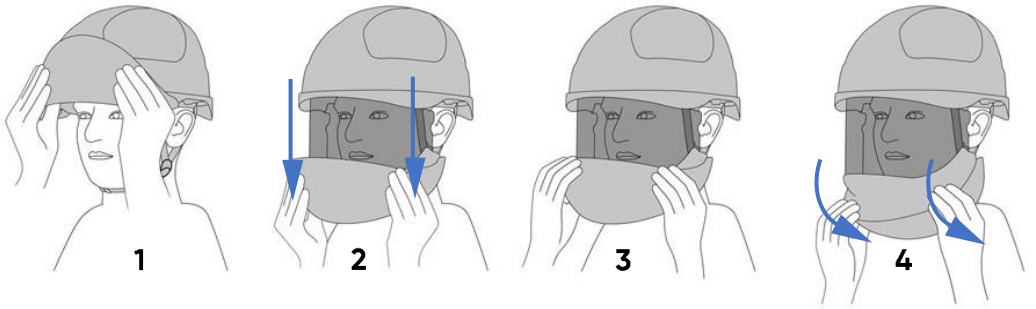

Fig. 6
1. To lower (open) the face shield (Fig.6), gently grab it with both hands, with thumbs on the inside (1), pull it down (2), until it fully extends to the outside of